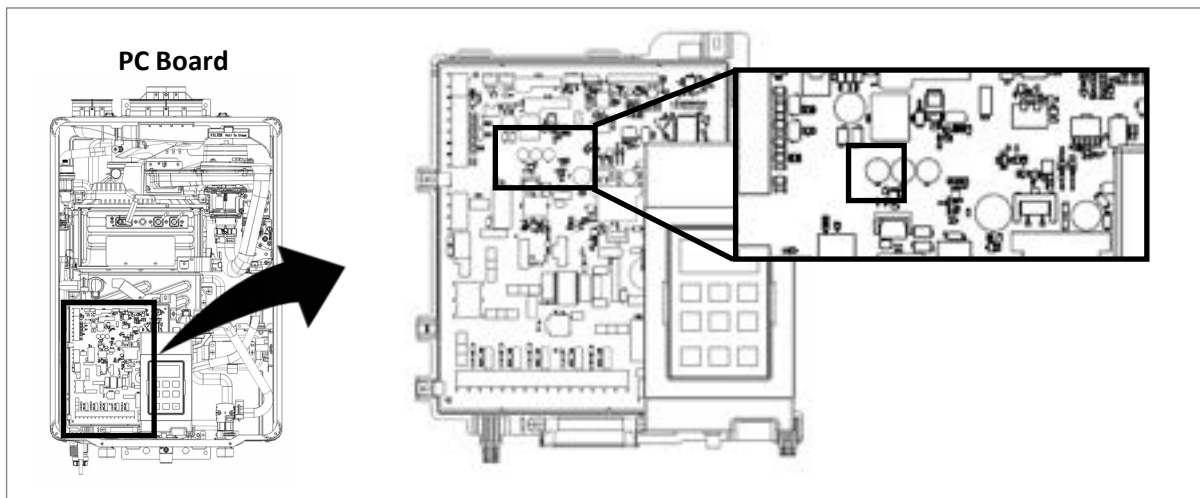
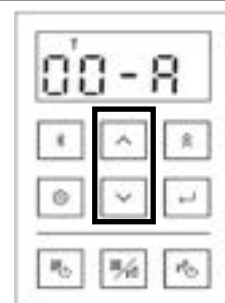

Figure 136
Figure 137
3. Press and hold the button for five seconds (Figure 136). 00-A appears (Figure 137).